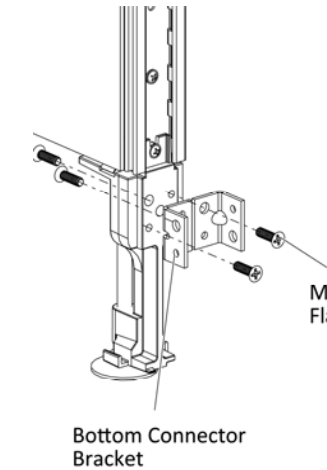

Figure 8
- 12.** Position the two bottom corner brackets of the fourth panel, (Figure 8).